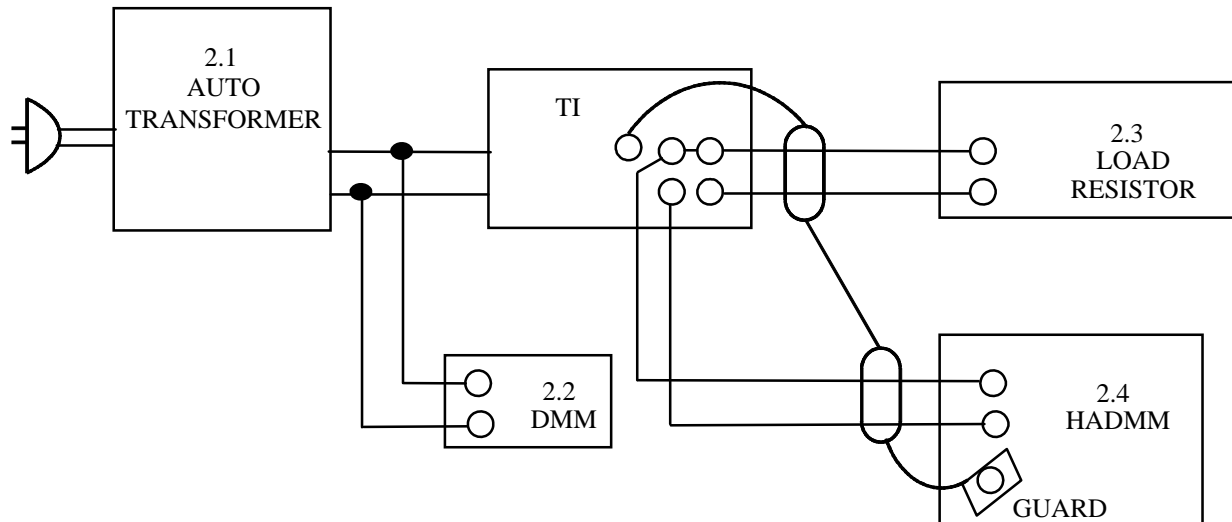

Figure 1. Line and Load Regulation Test Configuration
4.1.1 Connect the equipment as shown in Figure 1.
4.1.7 Perform each of the load-regulation measurements tabulated below (using Figure 1 as the test setup).
4.1.7.2 With the load resistance connected as shown in Figure 1, measure the dc voltage with the HADMM (item 2.4) for each range, and verify that the voltage indication as the 1st indication for reference.